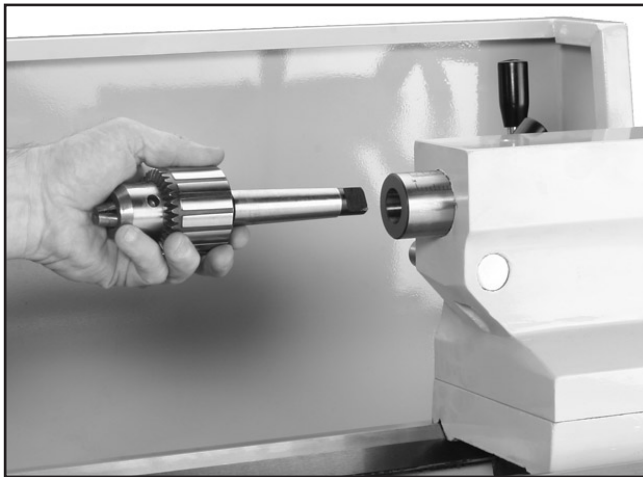
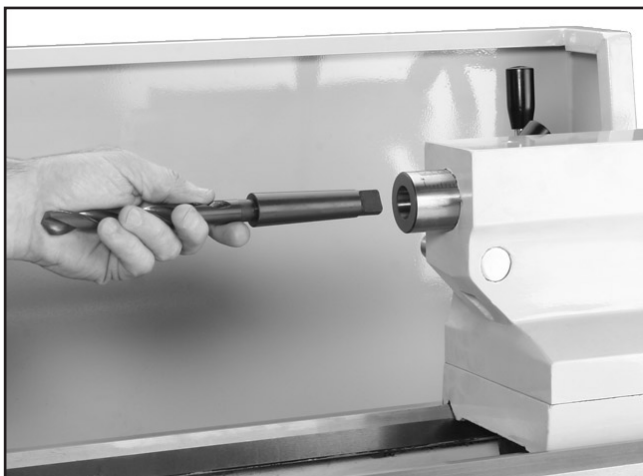

Figure 29. Typical tailstock chuck installation.
Figure 30. Typical tailstock tapered drill bit installation.
3. Insert a tapered drill arbor (**Figure 29**), or the tapered drill shank (**Figure 30**), into the quill until the taper is firmly seated. The matching tapers hold the arbor.